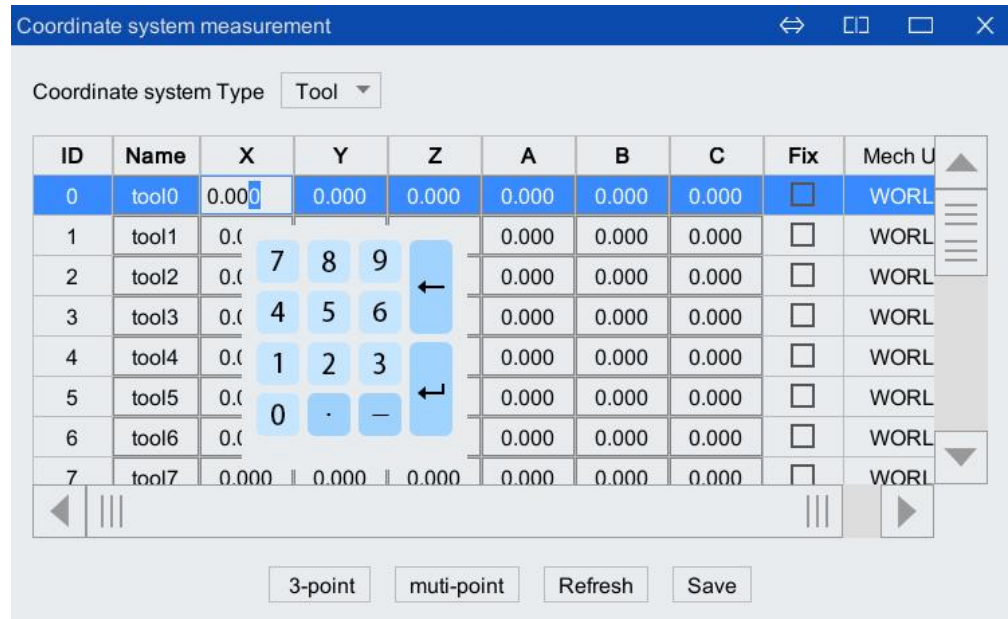

Figure 5-61 Input method setting workbook coordinate system page
- Step4. Set the workobject coordinate system by input, refer to Figure 5-61. The table in the figure shows the position of the origin of each workobject coordinate system and the posture of the coordinate system.